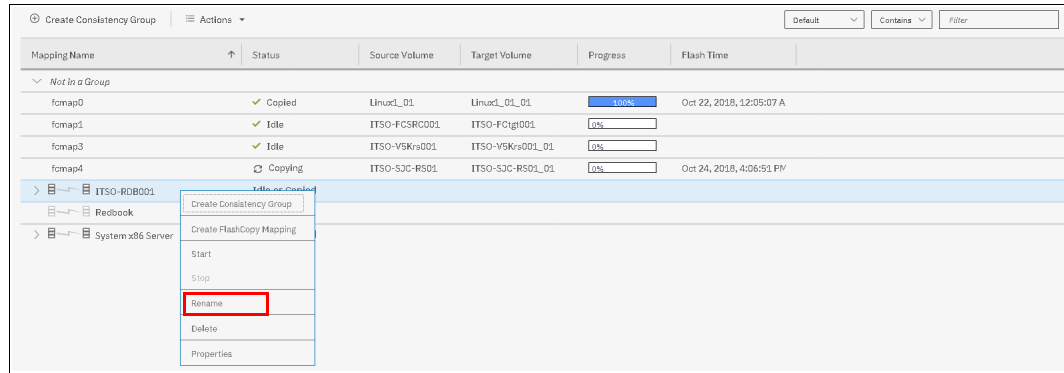

Figure 10-52 Renaming a Consistency Group
2. Select the Consistency Group to rename. Then, select right-click **Rename**, as shown in Figure 10-52.